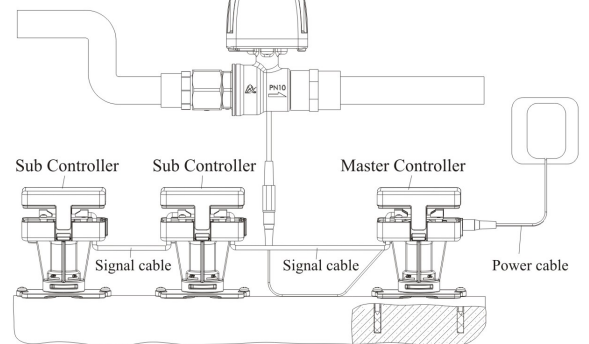

Figure 8
- ②. Wiring of multiple detection points, as Figure 8 shows. (F104B can only be used with F104A, F104D can only be used with F104C)